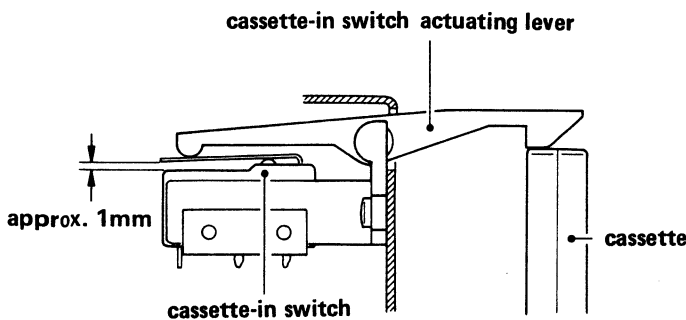

Fig. 4-6
1. Adjust the cassette-in switch (16) position to obtain a clearance as illustrated in Fig. 4-6 so that when a cassette is loaded, the transport mechanism is able to go into any tape motion mode.